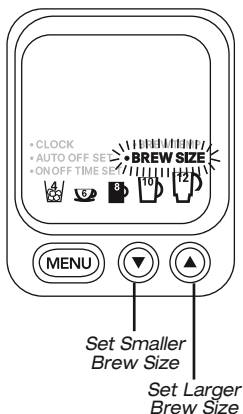

figure 25
1. Press the Menu button until BREW SIZE flashes (see figure 25).